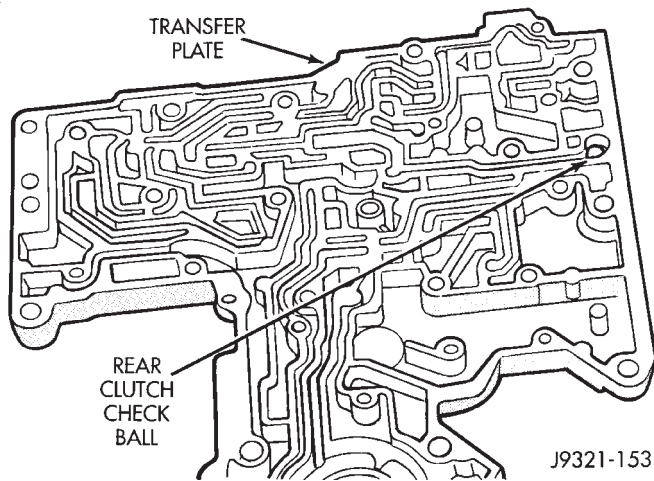

Fig. 110 Rear Clutch Check Ball Location—46RH
(25) Remove rear clutch check ball from transfer plate. **Note check ball location for assembly reference before removing it (Fig. 110).**
(1) Install rear clutch check ball in transfer plate (Fig. 110).